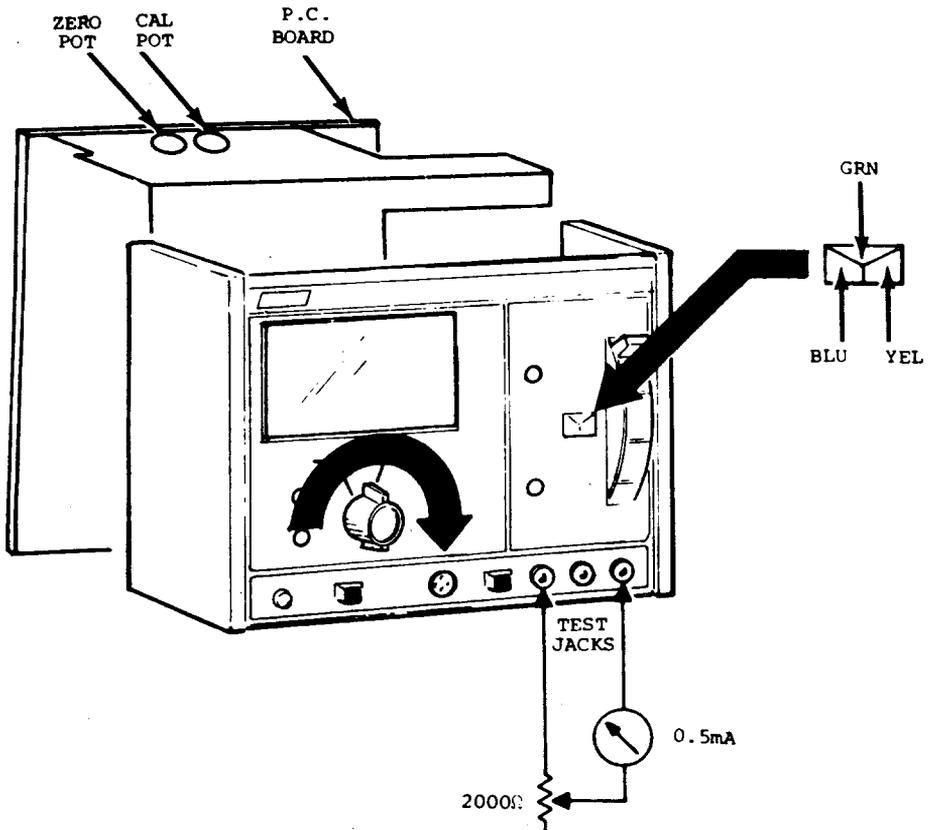

Fig. 4. Location of calibrating controls.
- b. Remove the back of the instrument by removing the five screws at the bottom and rear of the case. Locate TP1 near the top center of the P.C. board. Connect TP1 to the metal chassis with a jumper. Turn on the 520B. If the meter is not indicating zero, adjust the ZERO control with a screwdriver through the left side hole in the top of the chassis until the meter balances. The zero control is identified on the P.C. board just below the adjustment hole (see Fig. 4). Remove the jumper.
- c. To calibrate the meter, put the TEST switch in the uppermost (green) position. Connect a 2000 $\Omega$  potentiometer and a 0-5mA meter in series from the yellow jack to the blue jack as in Fig. 4. Then while holding the FUNCTION switch in the LEAKAGE position, adjust the potentiometer for 5 milliamperes in the external meter. If the meter on the 520B panel does not read full scale, adjust the "CAL" control through the right side hole in the top of the chassis. The CAL pot is identified on the P.C. board just below the adjustment hole. See Fig. 4.